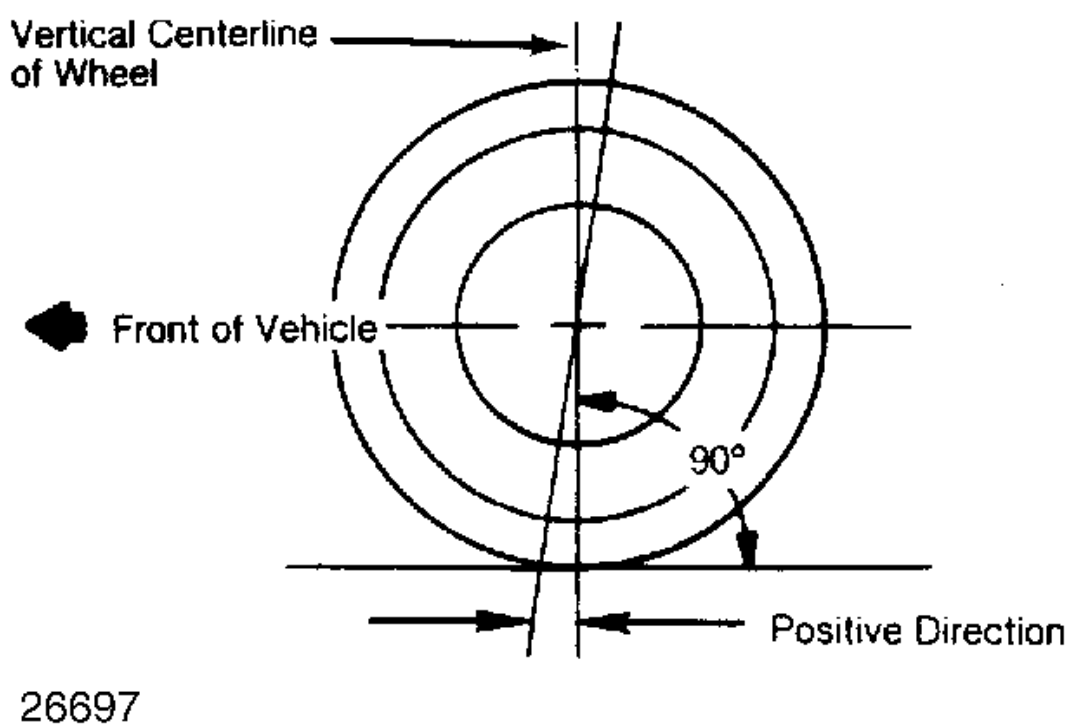

Fig. 4: Determining Caster Angle
- 1. Caster is tilting of front steering axis either forward or backward from vertical, as viewed from side of vehicle. See Fig. 4.